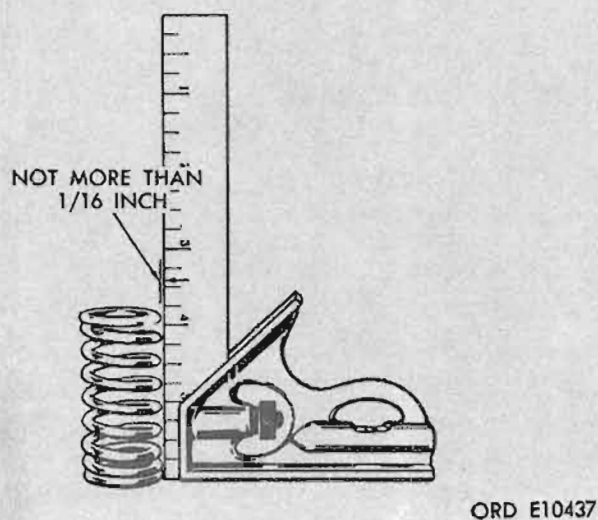

Figure 4-140. Valve spring squareness.
e. *Valve Spring Squareness.* Check each spring for squareness, using a steel square and a surface plate. Stand spring and square on end of surface plate. Slide spring up to square. Revolve spring slowly and observe space between top coil of spring and square. If out-of-square more than 1/16 inch, replace spring. Refer to figure 4-140.